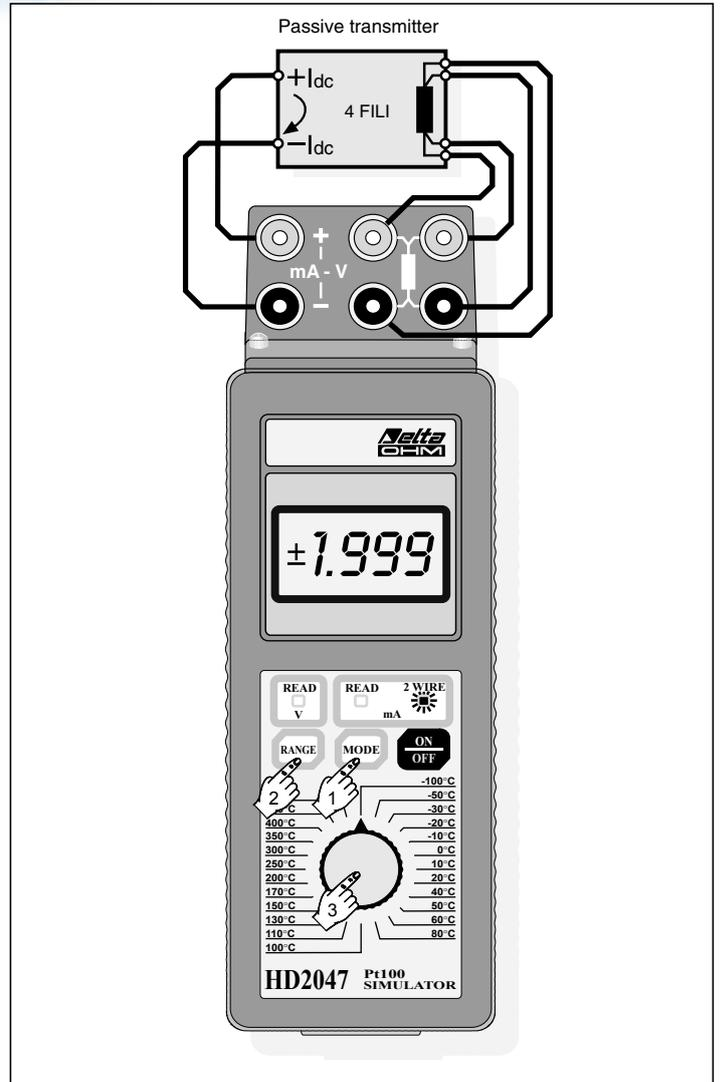

Fig. 3 Verification of a passive transmitter with Pt100 input
Operating mode (see fig.3):
- connect the 4...20mA loop wires to the left sockets, as shown in fig. 3, without changing the correct polarity; the current supplied by HD 2047 is delivered through the positive (+) socket;
- make the connection as shown in fig. 3, 4 or 5, depending on the number of wires;